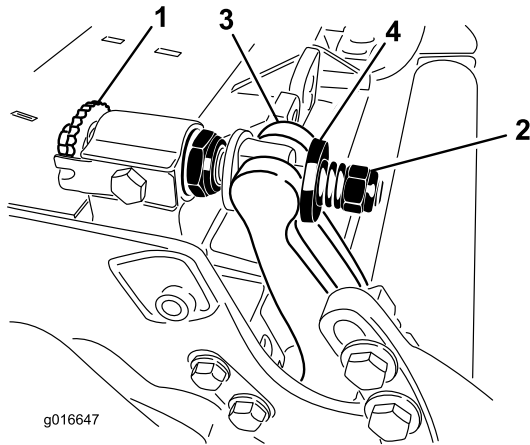

Figure 30
1. Turn bedbar adjuster screws, counterclockwise, to back bedknife away from reel (Figure 30).
2. Back out the spring tension nut, until the washer is no longer tensioned against the bedbar (Figure 30).